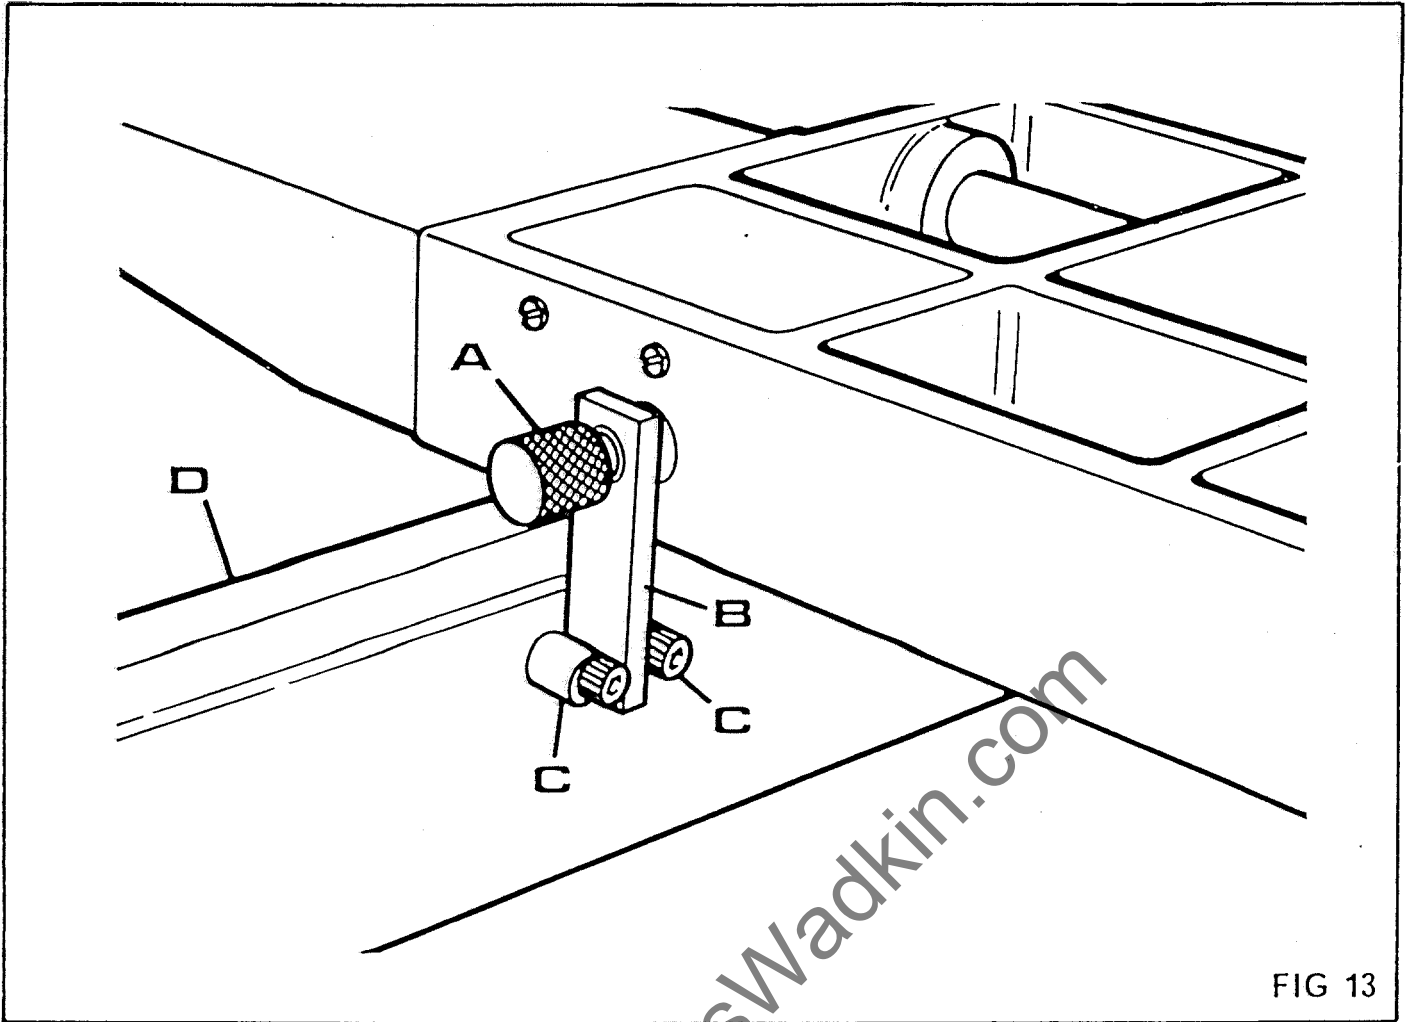

FIG 13
2. Loosen knurled screw "A", FIG. 13, then locate locking arm "B" between location bosses "C", as shown.